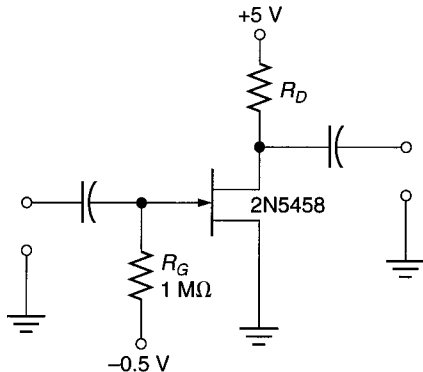
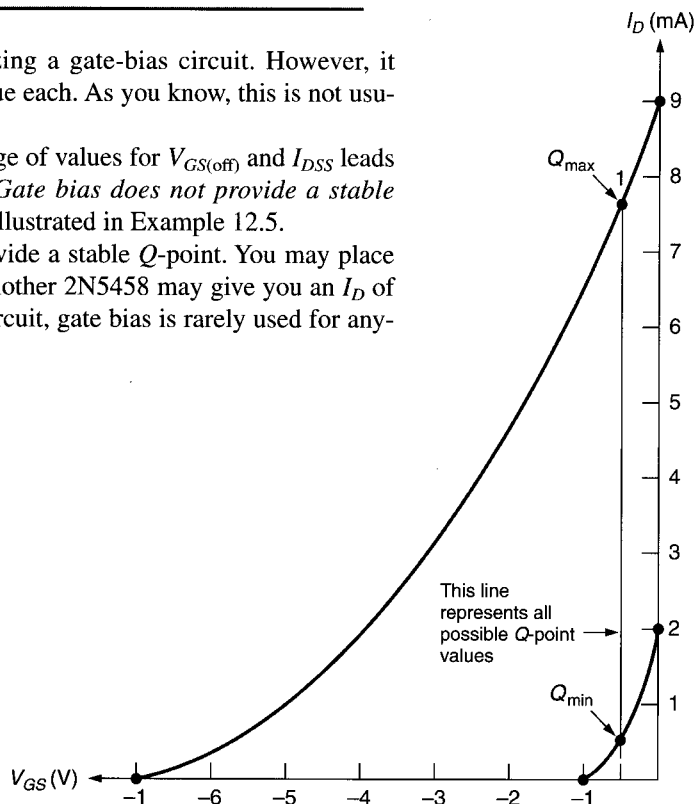

FIGURE 12.16
FIGURE 12.17
Determine the range of Q-point values for the circuit shown in Figure 12.16. Assume that the JFET has ranges of  $V_{GS(\text{off})} = -1$  to  $-7 \text{ V}$  and  $I_{DSS} = 2$  to  $9 \text{ mA}$ .
**Solution:** Using the established procedure, the two transconductance curves for the 2N5458 are plotted. These curves are shown in Figure 12.17. Since  $V_{GS}$  is set to  $-0.5 \text{ V}$ , a vertical line called a *bias line* is drawn from this point through the two transconductance curves, as shown in Figure 12.17. The point where the line intersects the maximum curve is the value of  $Q_{\text{max}}$ . The point where the line intersects the minimum curve is the value of  $Q_{\text{min}}$ . The line between the two points represents all the possible Q-points for a 2N5458 used in the circuit shown in Figure 12.16.